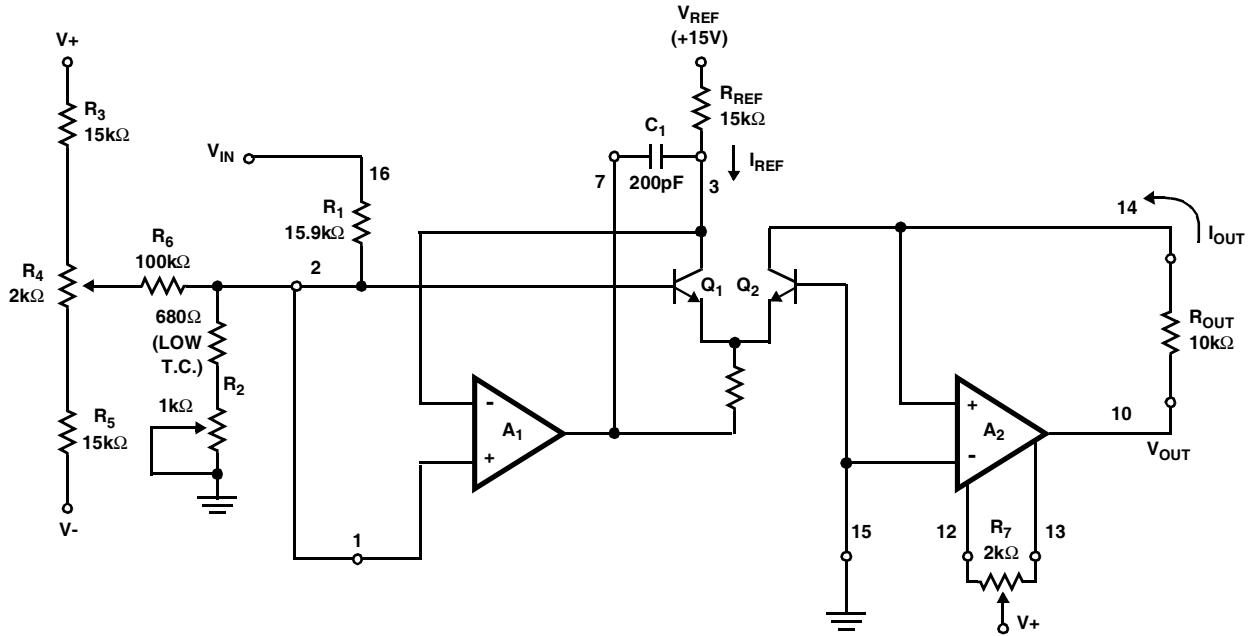

FIGURE 1. ICL8049 OFFSET AND SCALE FACTOR ADJUSTMENT
The ICL8049 relies on the same logarithmic properties of the transistor as the ICL8048. The input voltage forces a specific  $\Delta V_{BE}$  between  $Q_1$  and  $Q_2$  (Figure 1). This  $V_{BE}$  difference is converted into a difference of collector currents by the transistor pair. The equation governing the behavior of the transistor pair is derived from (2) on the previous page and is as follows:
As with the log amplifier, the antilog amplifier requires three adjustments. The first step is to null out the offset voltage of  $A_2$ . This is accomplished by reverse biasing the base-emitter of  $Q_2$ .  $A_2$  then operates as a unity gain buffer with a grounded input. The second step forces  $V_{IN} = 0$ ; the output is adjusted for  $V_{OUT} = 10V$ . This step essentially "anchors" one point on the transfer function. The third step applies a specific input and adjusts the output to the correct voltage. This sets the scale factor. Referring to Figure 1 the exact procedure for 1 decade/volt is as follows: